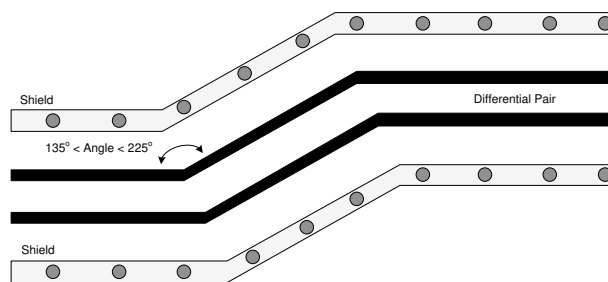

Figure 9-13. FPD-Link Routing Example
- Ensure that the bend angles associated with the differential signal pairs are between 135° and 225° (See Figure 9-13).